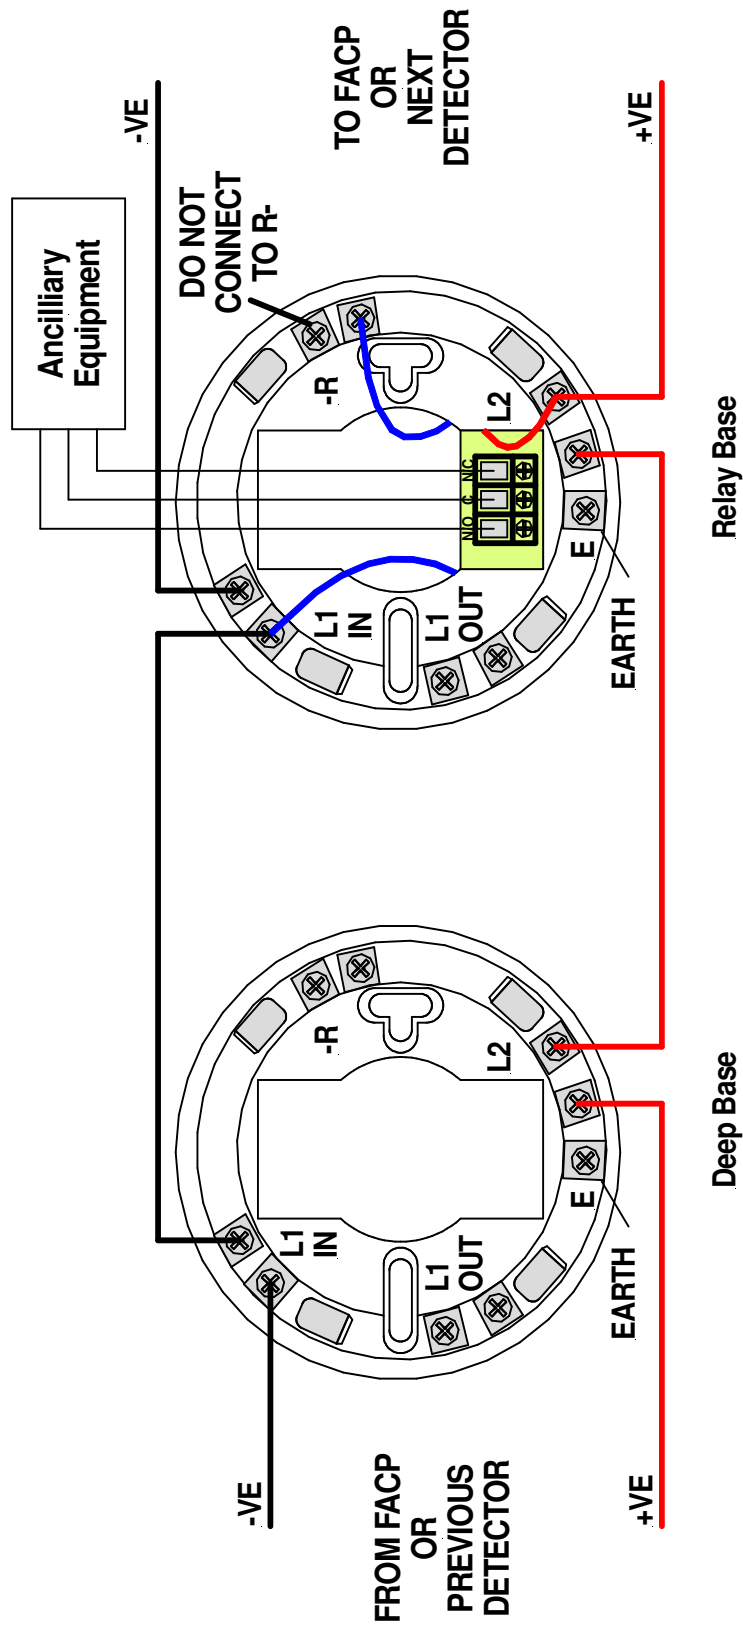

Figure 1: DS Series Addressable Relay Base General Wiring Diagram
5. Connect wiring to terminal blocks and base terminals in accordance with the fire system wiring diagram, which should be in accord with Figure.1